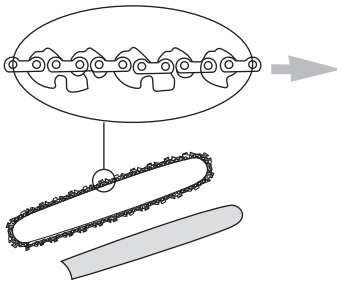

Fig. 38
**NOTE:** Make sure the chain is correctly installed and the cutters are facing in the correct direction. The cutters on the top of the guide bar should face toward the guide bar tip in the direction of chain rotation (Fig. 38). If they face backward, turn the loop over.